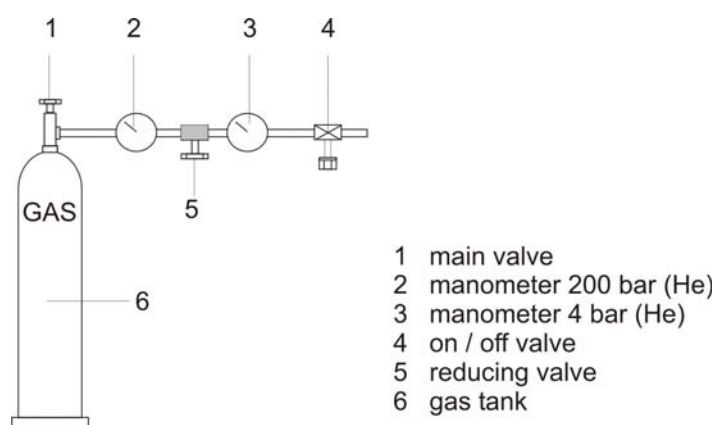

Figure 3-6. Gas supply
Note The pressure of a new gas tank is about 200 bar (for example helium tank and hydrogen tank) or about 60 bar (for example CO₂ tank). The pressure needs to be adjusted to approximately 4 bar via the reducing valves mounted at the gas tank. See Figure 3-6. The pressure of the SO₂ tank must be adjusted to approximately 3 bar. ▲
1. After mounting the reducing valve to the gas tank, both valves that is the on/off valve and the reducing valve, should be open. See Figure 3-6.
2. Open the main valve for two or three seconds to let the gas purge the whole valve system. See Figure 3-6.